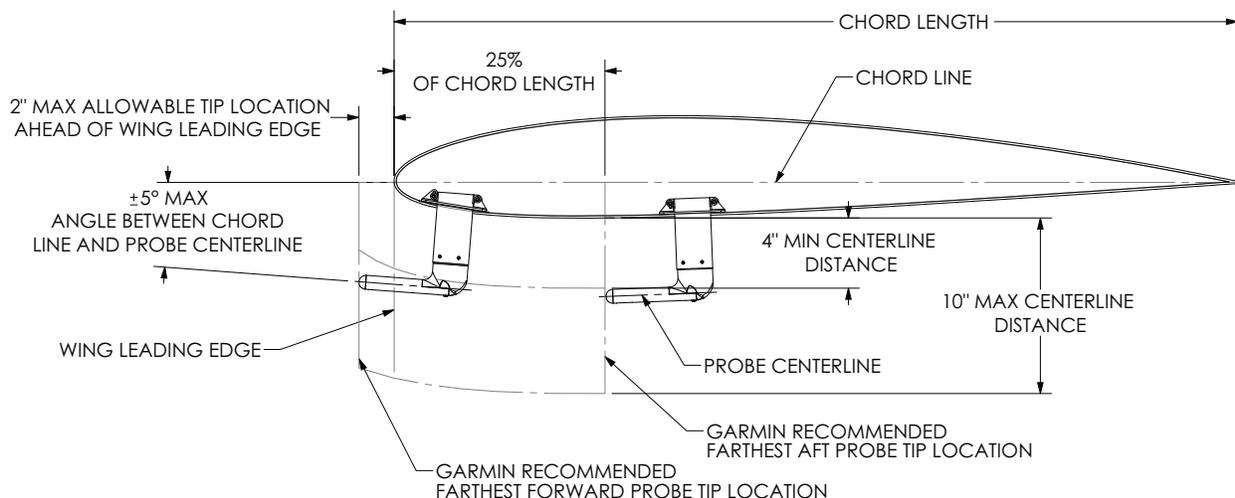

Figure 5-4 GAP 26, Mounting Location Guidance
- Consider using the aircraft designer/manufacturer’s recommended mounting location (if specified). Optimal AOA functionality results when the tip of the GAP 26 probe is located no further back than 25% of the wing chord length from the leading edge. (See Figure 5-4)